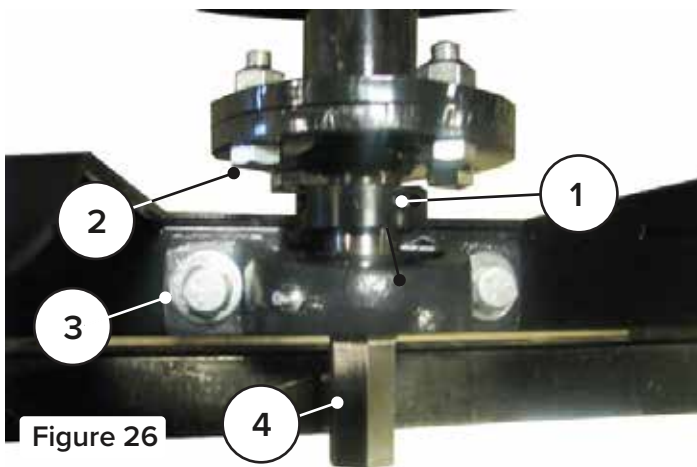

Figure 26
4. Loosen the bearing offset locking collar set screws (Item 1) and loosen the offset locking collar. [Figure 26]
5. Remove the four adapter shaft mounting bolts and nuts (Item 2). [Figure 26]
6. Remove the two bearing mounting bolts (Item 3). [Figure 26]
7. Attach a lifting device to this end of the spool and lift slightly to allow removal of the adapter shaft (Item 4) from the spool. [Figure 26]